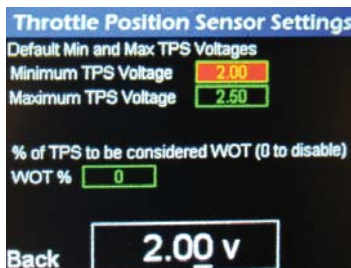

Figure 25
NOTE: WOT has to be enabled before it can be altered/used. See Figure 25 on pg 9.
2. To change a value, highlight the cell and press the “OK” button (Figure 25).